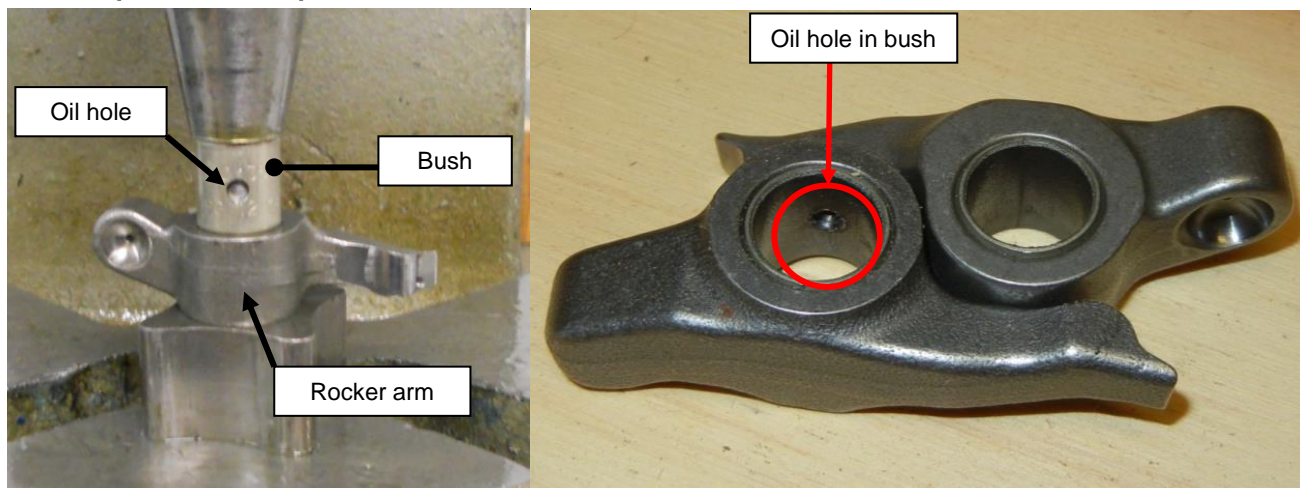

Figure 99 – Fitting Rocker Bush
- Use a hand press to push the old bushes out with the new bushes, making sure that the oil hole in each bush is oriented towards the bottom of the rocker as shown in Figure 99. Typically the inner size of fresh bushes is around 12.06mm.